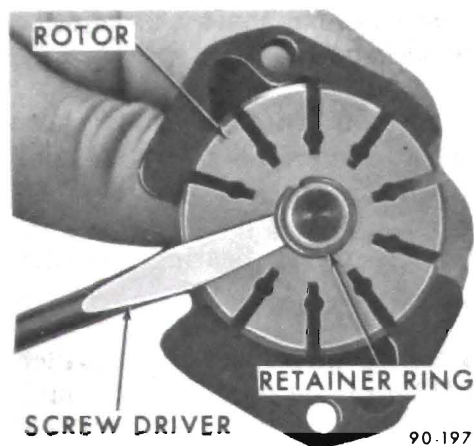

Figure 90-82 Removing Rotor Retaining Ring
13. If it is desired to disassemble the shaft and rotor assembly, use a screwdriver as shown in Figure 90-82.